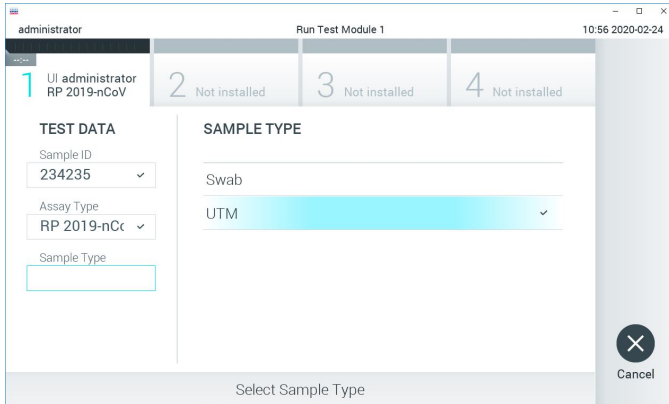

Figure 26. Selecting sample type.
16. Select the appropriate sample type from the list (Figure 26).